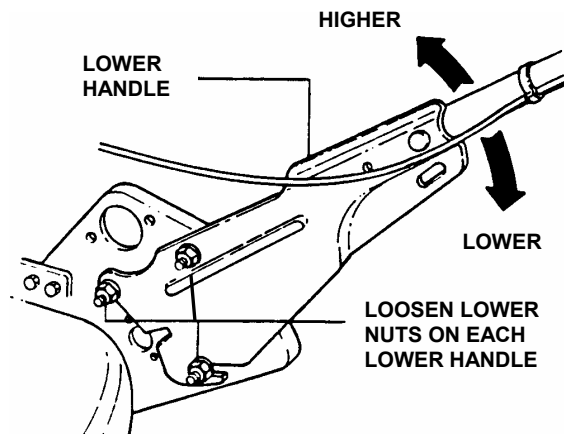

FIGURE 2.7
1. Loosen the lower nuts on each lower handle as shown in Figure 2.7.